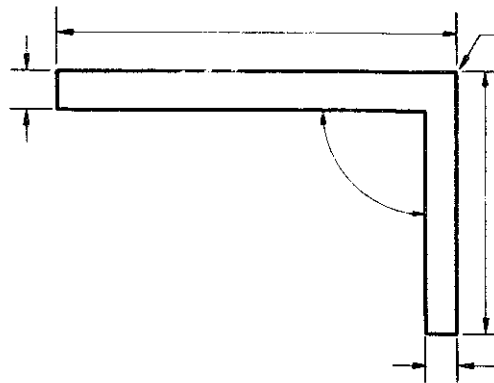

Fig. 3-17 Parts of a rafter and framing square
1. In figure 3-17, identify the parts of the rafter and framing square. Complete the dimensions of each part.